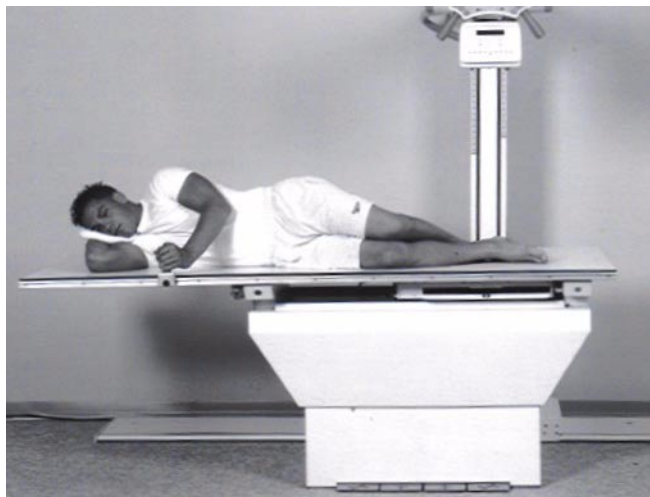

Figure 3. Patient Positioned on Tabletop
1. Position the patient on the table with his or her hands situated along the side of their body, or with the hands grasping the patient handles (see Figure 3). Be sure that the hands remain above the tabletop.
4. Ensure patient is positioned with his or her hands situated along the side of their body, or with the hands grasping the patient handles (see Figure 3). Be sure patient's hands remain above the tabletop.